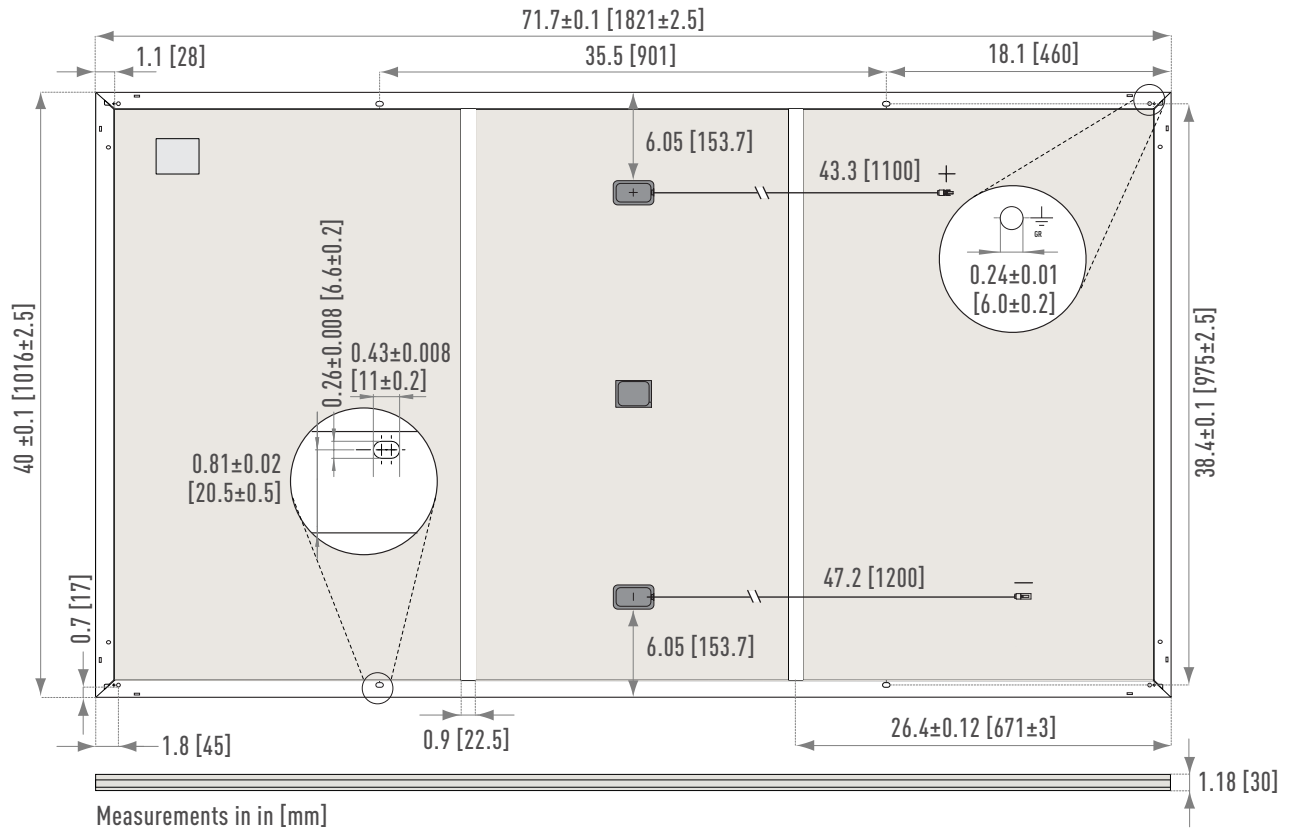

Figure 2. Module Dimension for EVPVxxxH and EVPVxxxHK Series
- To ensure connector compatibility and reduce the potential for damage to the modules and the wider installation, the connectors used on the EverVolt modules are detailed in the Figure 2. Only permitted the mating of factory-installed connectors to connectors of the same manufacturer, type, and system rating as shown in the table below (Table.2).